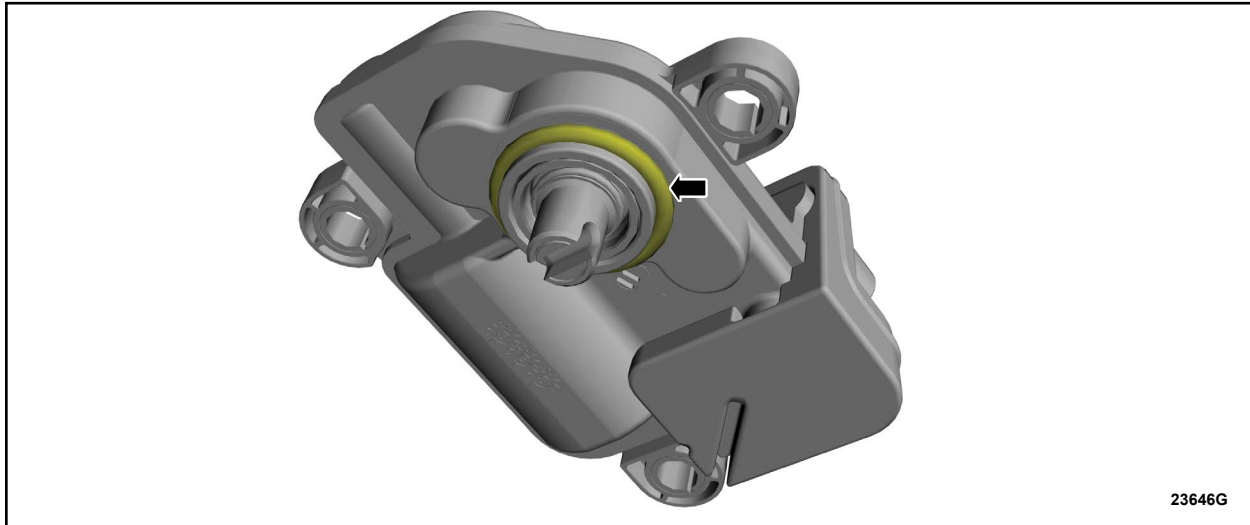

FIGURE 7
7. Install the O-ring seal on the actuator. See Figure 7.